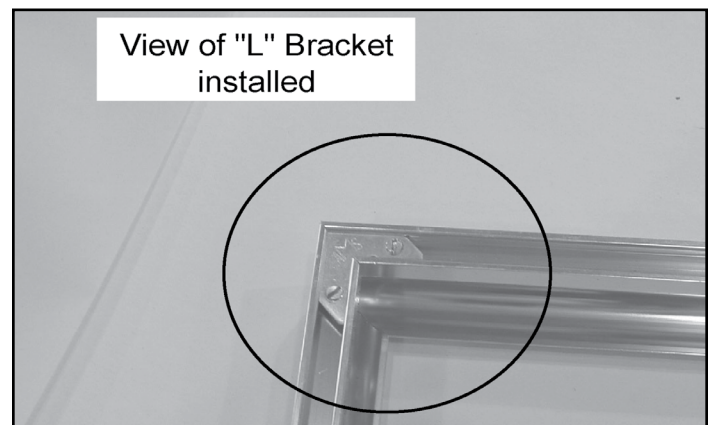

Figure 20.4
2. Assemble the trim with the (2) corner brackets provided (**Figure 20.4**).